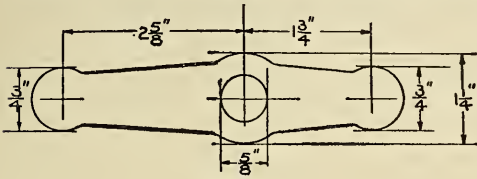

FIG. 77
Thread one end of this rod to a distance of about one inch and drill a  $3\text{-}32$ -inch hole through it  $\frac{1}{4}$  inch from the opposite end. This rod is to be used in operating the contact arm (B) of the switch ( $S_2$ ). Cut from some 1-16-inch spring brass two pieces as shown in Figs. 77 and 78 that are to form the arms (A) and (B) of the switches. A brass washer (R), Fig. 76, should be cut from some  $\frac{1}{8}$ -inch brass and soldered to the arm (B) and both of them then soldered to the brass rod so that the lower side of the washer is  $5\frac{1}{2}$  inches from the threaded end of the rod. Now fasten this part of the switch in position as shown in Fig. 76. A brass washer (W) should be placed on the end of the rod before the nut is screwed on. It would be best to put a lock nut on the end of the rod in addition to the one shown. These nuts should be run onto the rod until there is quite a little tension in the arm (B), thus assuring a good contact between it and the heads of the screws. Procure an insulating tube,  $4\frac{3}{8}$  inches long, with an inside diameter a trifle larger than the outside diameter of the brass rod ( $R_1$ ) and an outside diameter of approximately  $\frac{1}{2}$  inch. Next obtain a piece of brass tubing (T)  $4\frac{1}{2}$  inches long with about 1-16-inch wall and of such an inside diameter that it will fit snugly around the insulating tube. Now fasten the arm (A) to the brass tube with a brass washer ( $R_1$ ) as you did the arm (B) to the brass rod. The lower side of the arm (A) should be  $1\frac{1}{4}$  inches from the lower end of the brass tube when they are fastened together. A special washer ( $R_2$ ) should now be made. Two holes should be drilled in the lower end of the brass tube and threaded so that they will take the screws ( $S_3$ ) and ( $S_4$ ). There should be quite a bit of pressure exerted by the arm (A) upon the heads of the screws when it is fastened in place.